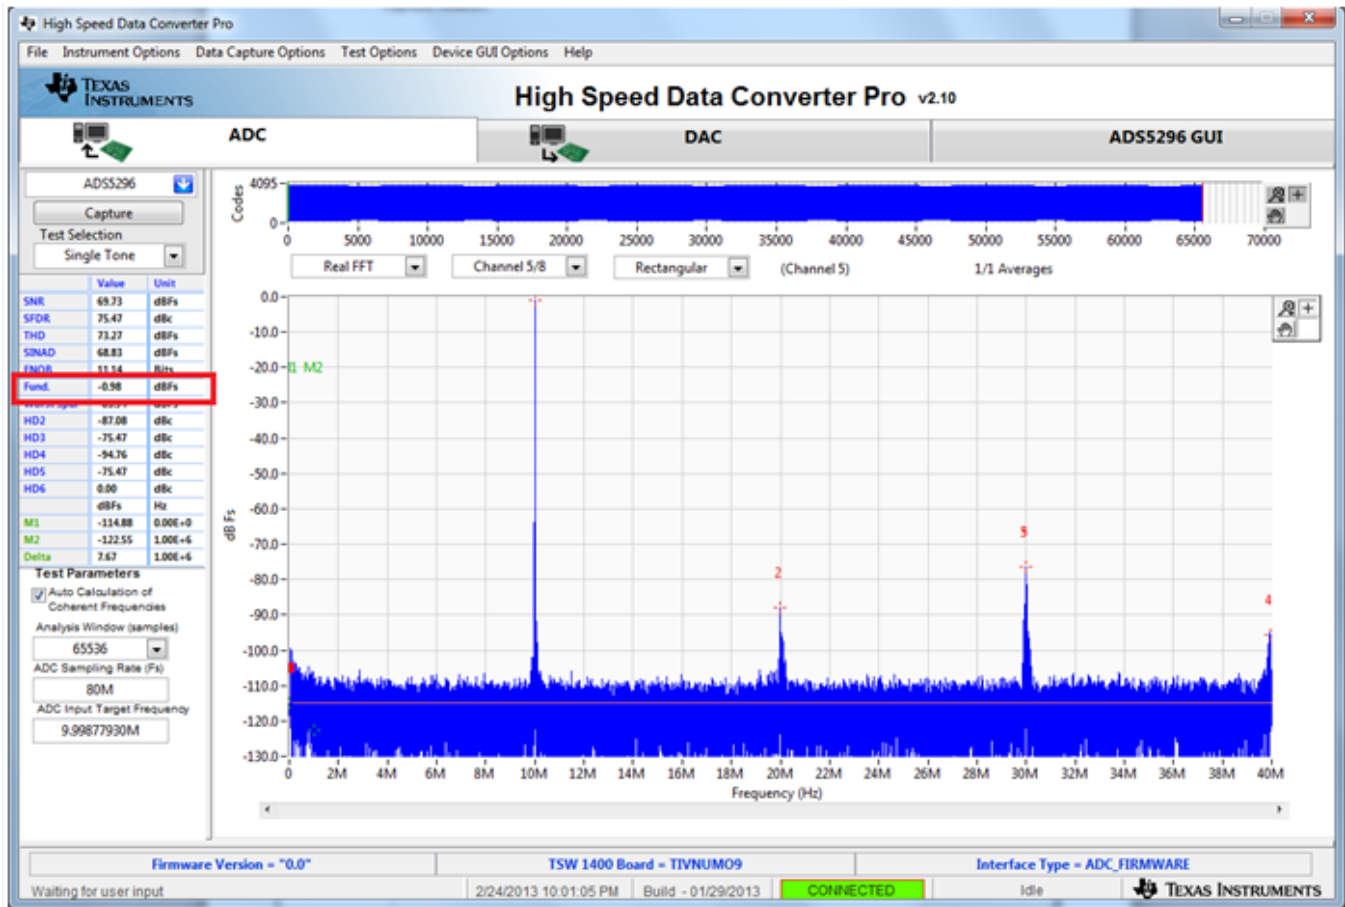
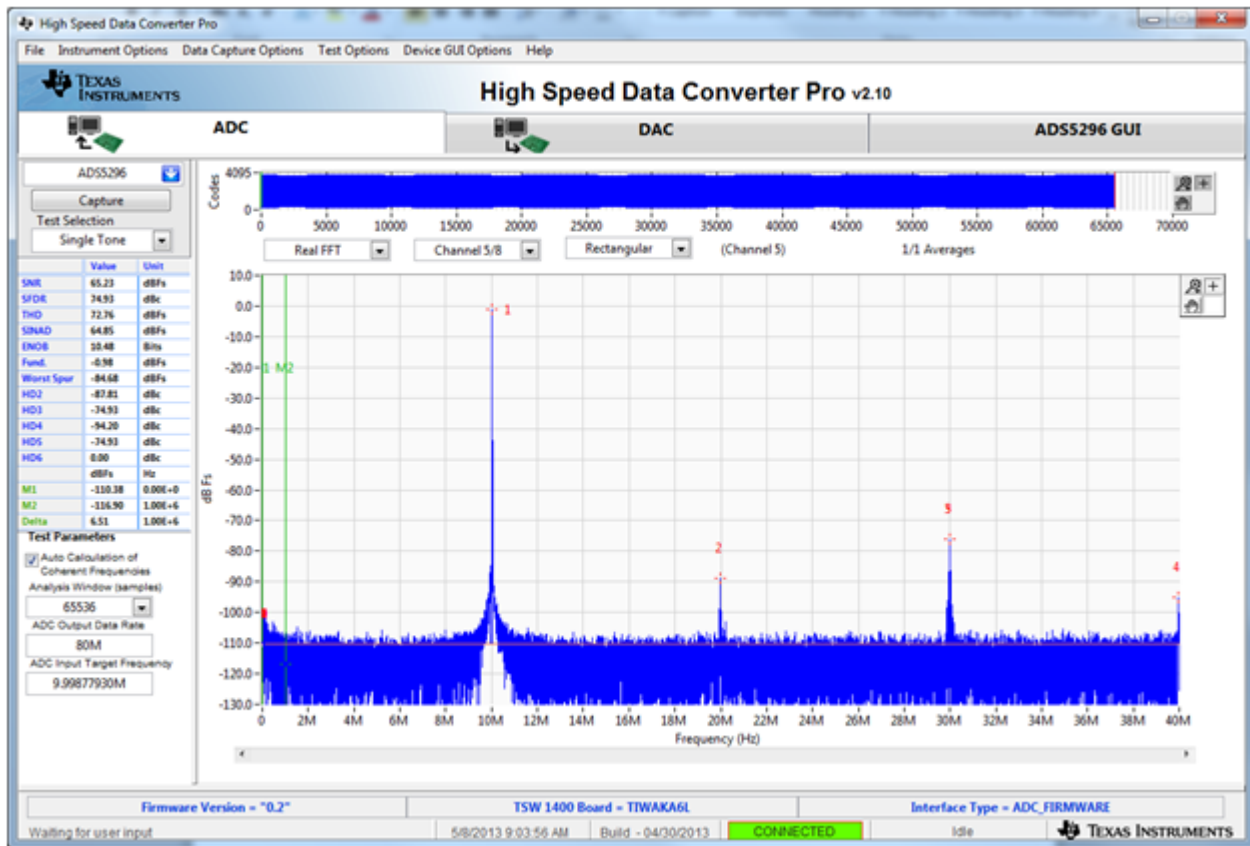
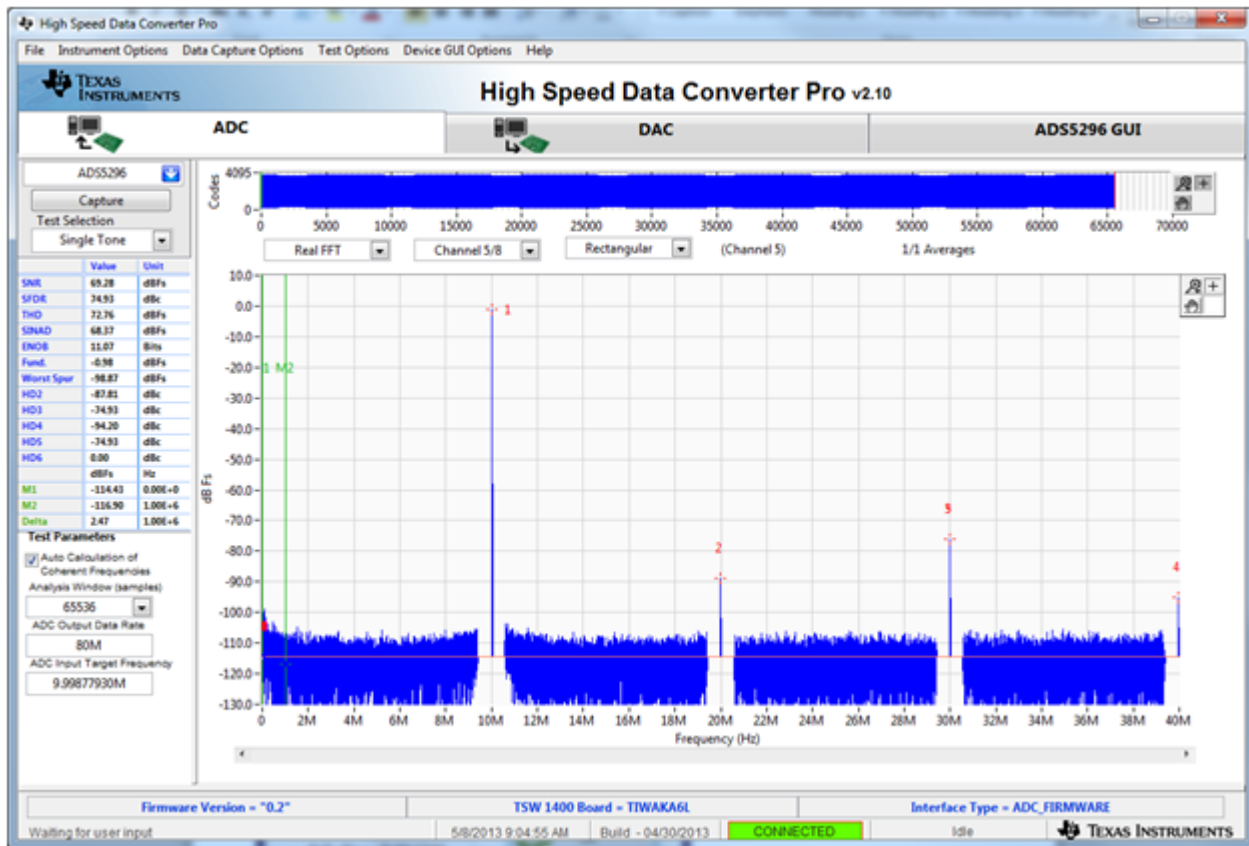

Figure 42. Octal Non-Interleaving Mode Capture 2
Figure 43. Octal Non-Interleaving Mode Capture 3
Figure 46. HSDCpro Capture with Software Filtering
6. After re-capturing, the *Fund.* value is now closer to -1.0 dBfs as shown in Figure 42.
The SNR computed is highly dependent on the phase noise of the input signal source. Figure 42 and Figure 43 are with the exact same configuration, the only difference being the instrument used to provide the 10-MHz input signal. A 4.5 dB difference in the computed SNR is observed and is attributed solely to the integrity of the input signal, specifically the close-in phase noise.
The plot and all calculations will be updated accounting for these removed bins as shown in Figure 46. The SNR is now very close to the Software Filtering Menu SNR shown in Figure 43 using a superior instrument.